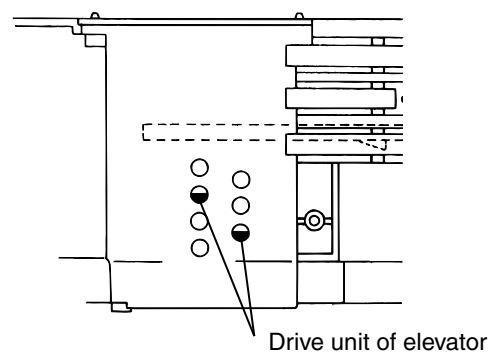
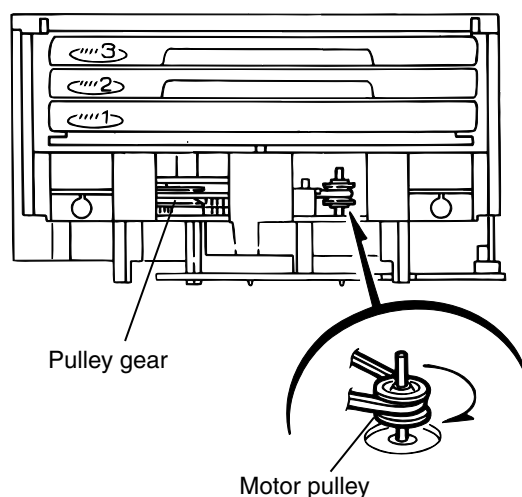

Fig.7
Fig.8
[Caution] In case the driver unit elevator is not at above position, set the elevator to the position as shown in Fig.7 by manually turning the pulley gear as shown in Fig.8.
13. Manually turn the motor pulley in the clockwise direction until the lifter unit stopper is lowered from the section e of DVD tray assembly (See Fig.8).